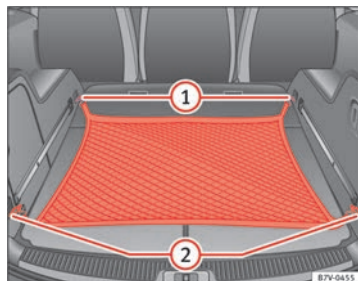

Fig. 100 In the luggage compartment: net used on secured baggage.
- Hook the baggage net into the fastening rings → fig. 100 ① and ②.